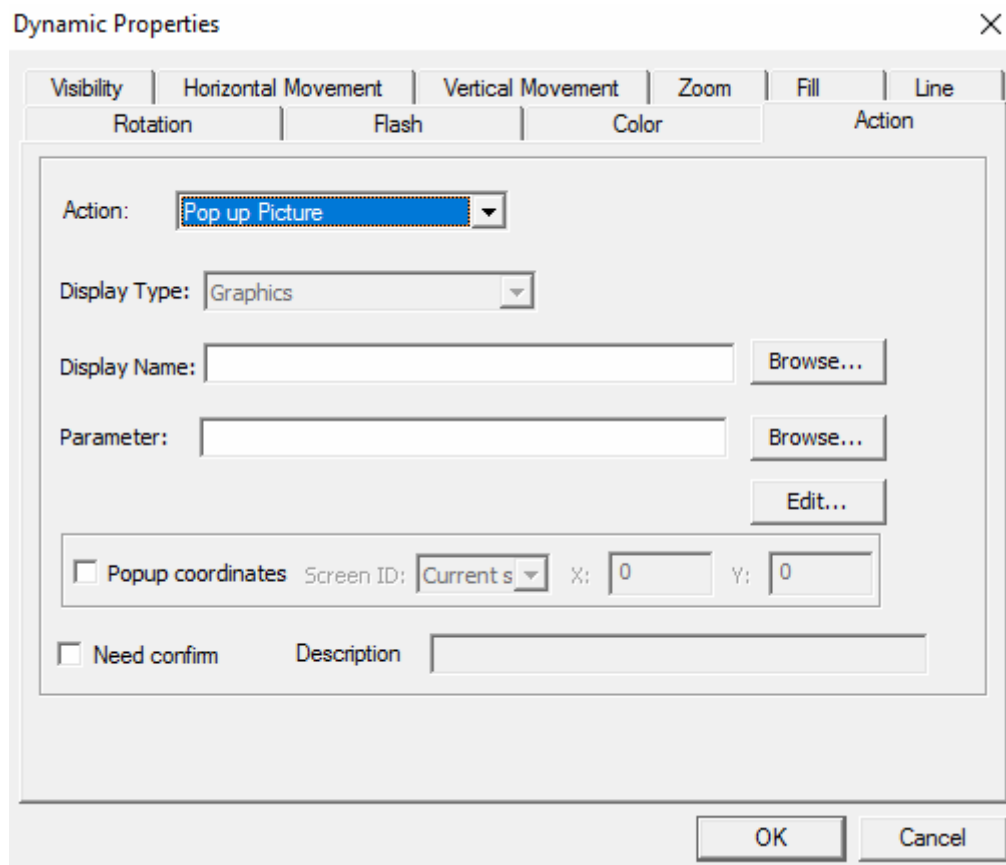

Figure 4-12 Action is Pop-up Picture
- **Pop-up Picture:** It is used to pop up another graphics picture in the form of dialog box when not switching current graphics in supervision. The “Pop-up Picture” setting interface is shown in Figure 4-12, click the “Browse” button beside “Screen” to select graphics to be popped up, and the “Tag Groups” function is available in the “Parameter” section. Users can select the needed “Tag Groups” file in the “Open File” dialog box by clicking “Browse” button, or edit Tag Groups by clicking “Edit” button. In the Tag Groups editor, Symbols are alias for tags, which start and end with @ existed in graphics; “Tag” means the corresponding tag of alias; “Description” is used to input relevant instructions. Tag Groups replacement is available for character strings, including tags and descriptions. Please refer to 4.3.18 for the usage of Tag Groups and alias) In “Popup Coordinates”, the pop-up position of pop-up picture can be set, including the pop-up screen, x coordinate and y coordinate. In “Confirm Dialog Box”, configure whether to pop up confirming prompt box and the its information before pop-uping picture in monitoring. In prompt box, select “Yes” to pop up the designated picture, select “No” to not display the pop-up picture.